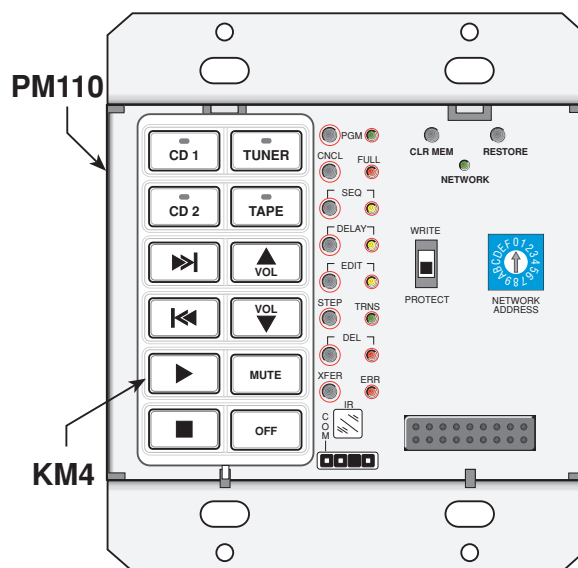

Fig. 7 Programming a Single Gang using a PM110
- Insert the KM4, with selected buttons installed, **into the left bank** of a PM110. See **Fig. 7**.